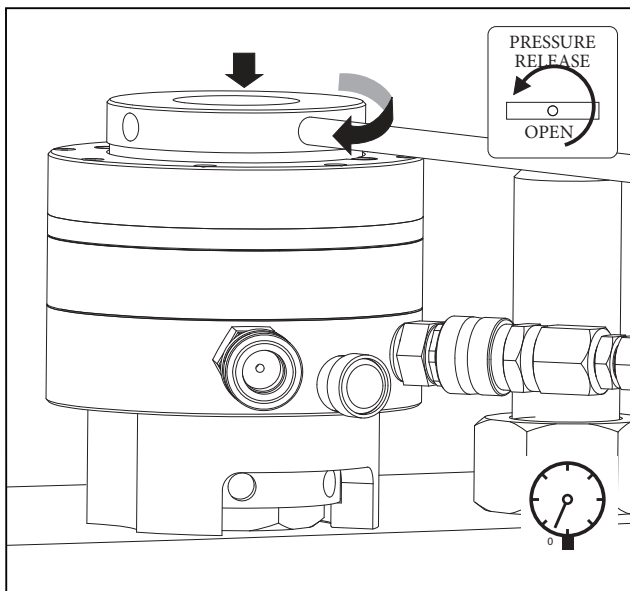

FIGURE 11, TURNING DOWN THE THREADED PULLER (AS REQUIRED)
10. Check the stroke indicator. If necessary, turn down the threaded puller until the piston is fully retracted into the tensioner body. See Figure 11.
14. Verify that the oil pressure gauge indicates zero (0) psi/bar. If any pressure is indicated, release the hydraulic pressure by SLOWLY opening the pump pressure release (return to tank) valve.
11. Check the stroke indicator at each tensioner in the circuit. If necessary, turn down the threaded puller until the piston is fully retracted into the tensioner body. See Figure 11.
22. Check the stroke indicator at each tensioner in the circuit. If necessary, turn down the threaded puller until the piston is fully retracted into the tensioner body. See Figure 11.